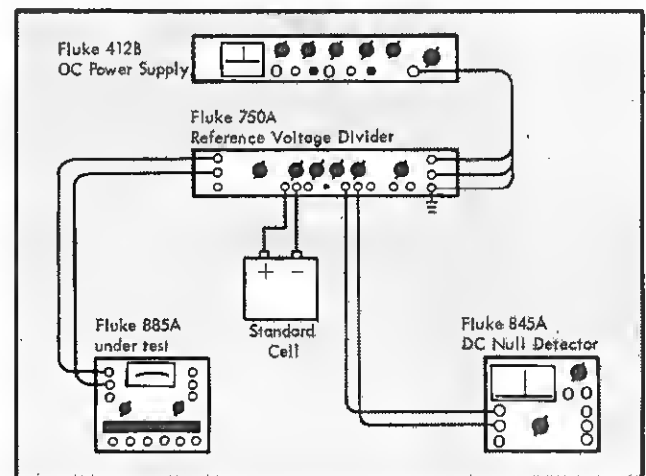

Figure 4-3. CONNECTION FOR TEST VOLTAGES
(1) Equipment connection is illustrated in Figure 4-3. Connect the 845A to the null detector terminals of the 750A, and connect a standard cell to the standard cell terminals of the 750A.